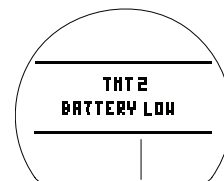

Fig. 5A - TMT LOW BATT (Warning)
- The graphics TMTx BATTERY LOW appear solid on the Battery Status screen (Fig. 5A).